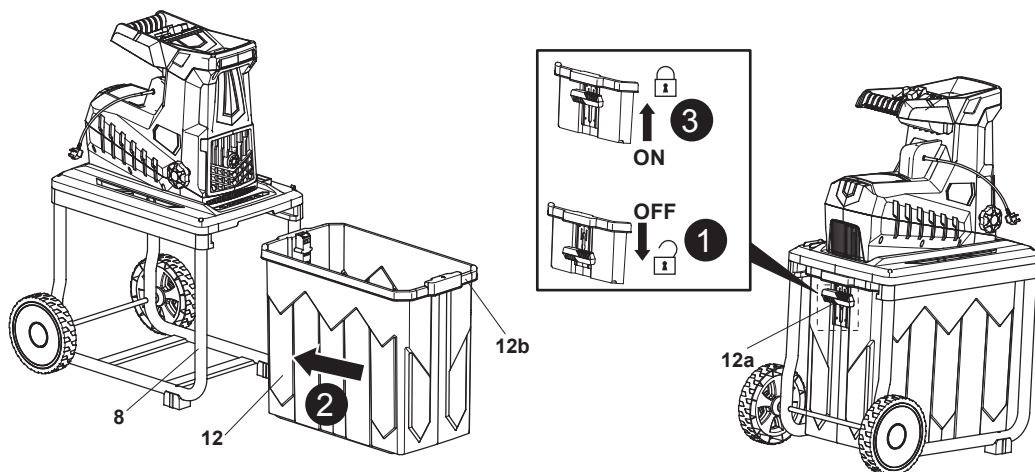

Fig. 5
1. Fully press down the interlock switch (12a) to position “OFF” (Fig. 5, step 1).
2. Hold the recessed grip (12b) and insert the collection box (12) into the frame (8) and slide it all the way to the stop (Fig. 5, step 2).
3. Fully pull up the interlock switch (12a) to position “ON” to secure the collection box (12) in position (Fig. 5, step 3).